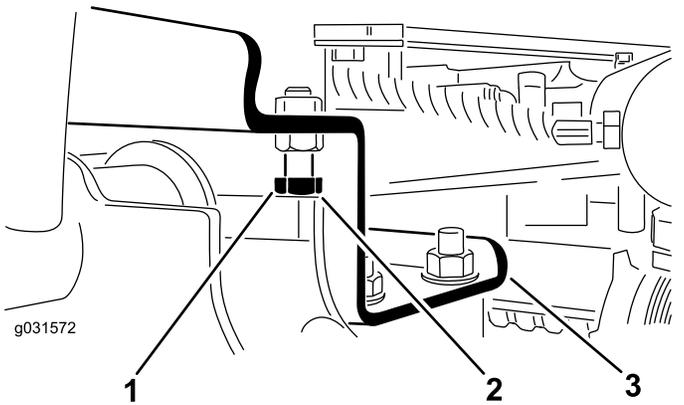

Figure 7
- A. Back off the stop bolts (Figure 7).
2. Ensure that the clearance between each lift arm and stop bolt is 0.13 to 1.02 mm (0.005 to 0.040 inches) as shown in Figure 7.